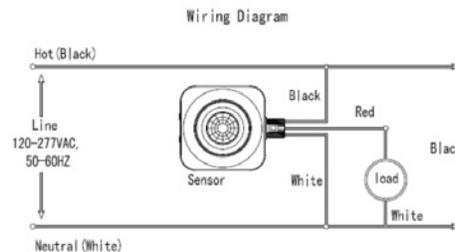

Fig. 2B
3. Connect wire per wiring diagram as follows: BLACK lead to LINE (HOT) • RED lead to LOAD • WHITE lead to NEUTRAL. (Fig 2B) Twist the existing wires together with wire leads on the 54900 sensor as indicated. Cap them securely using the wire nuts provided.